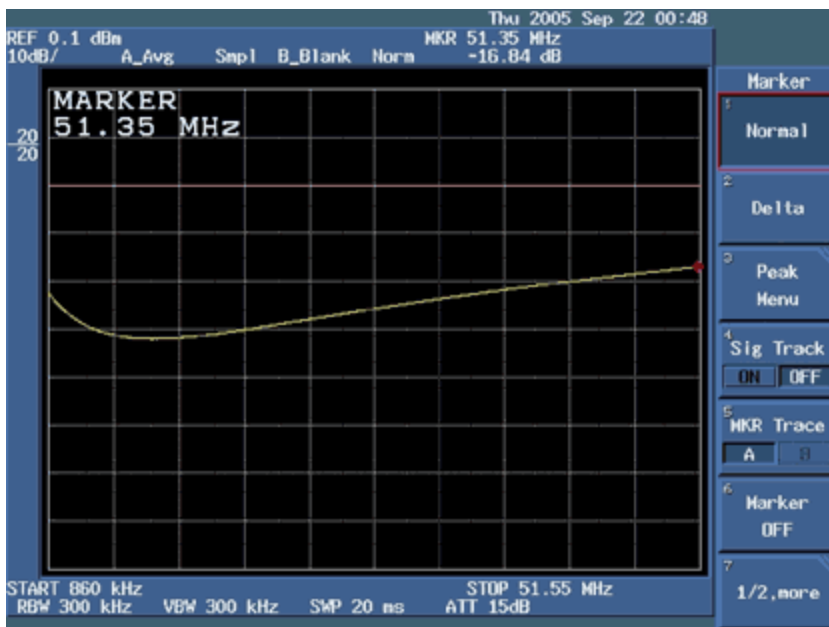

Figure 13. Return loss of the DUT at 51.35MHz.
11. Measure the return loss at **51.35MHz** for the DUT, as shown in **Figure 13**.